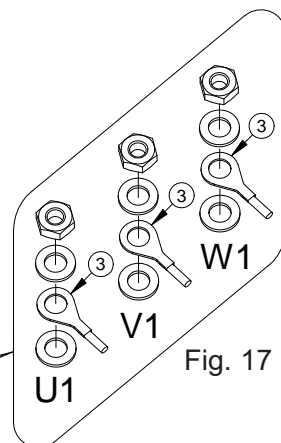

Fig. 17
b) The cable conductors are required to be fitted with M4 ring eyelet connectors as shown in Figs. 17 and 18 (item 3), a special crimping tool is required to secure the eyelets to the conductors.